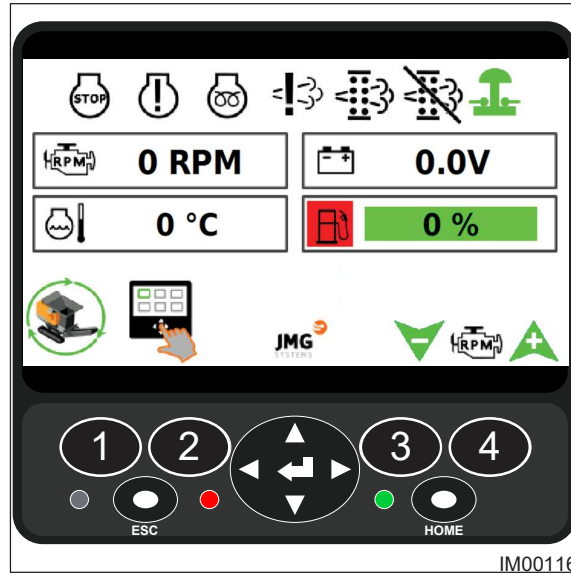

Fig: 7.3 - Home Screen
3. On the home screen, press the Menu Select button (Item 2, Fig: 7.3).